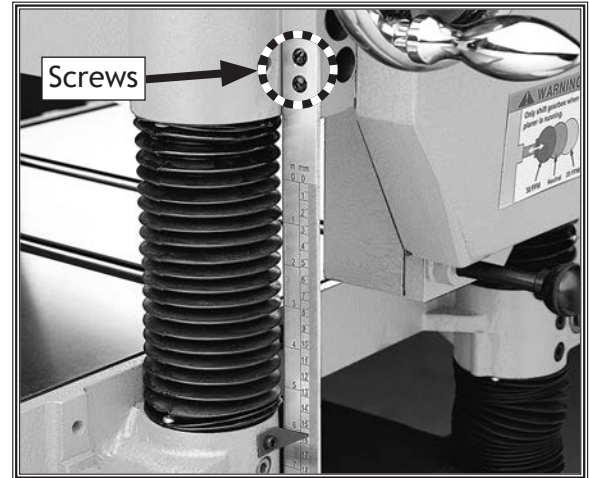

Figure 58. Location of adjustment screws for table height scale.
3. If there is a discrepancy between board thickness and reading on table elevation scale, loosen the screw shown in **Figure 58**, adjust scale as necessary, then re-tighten screw.